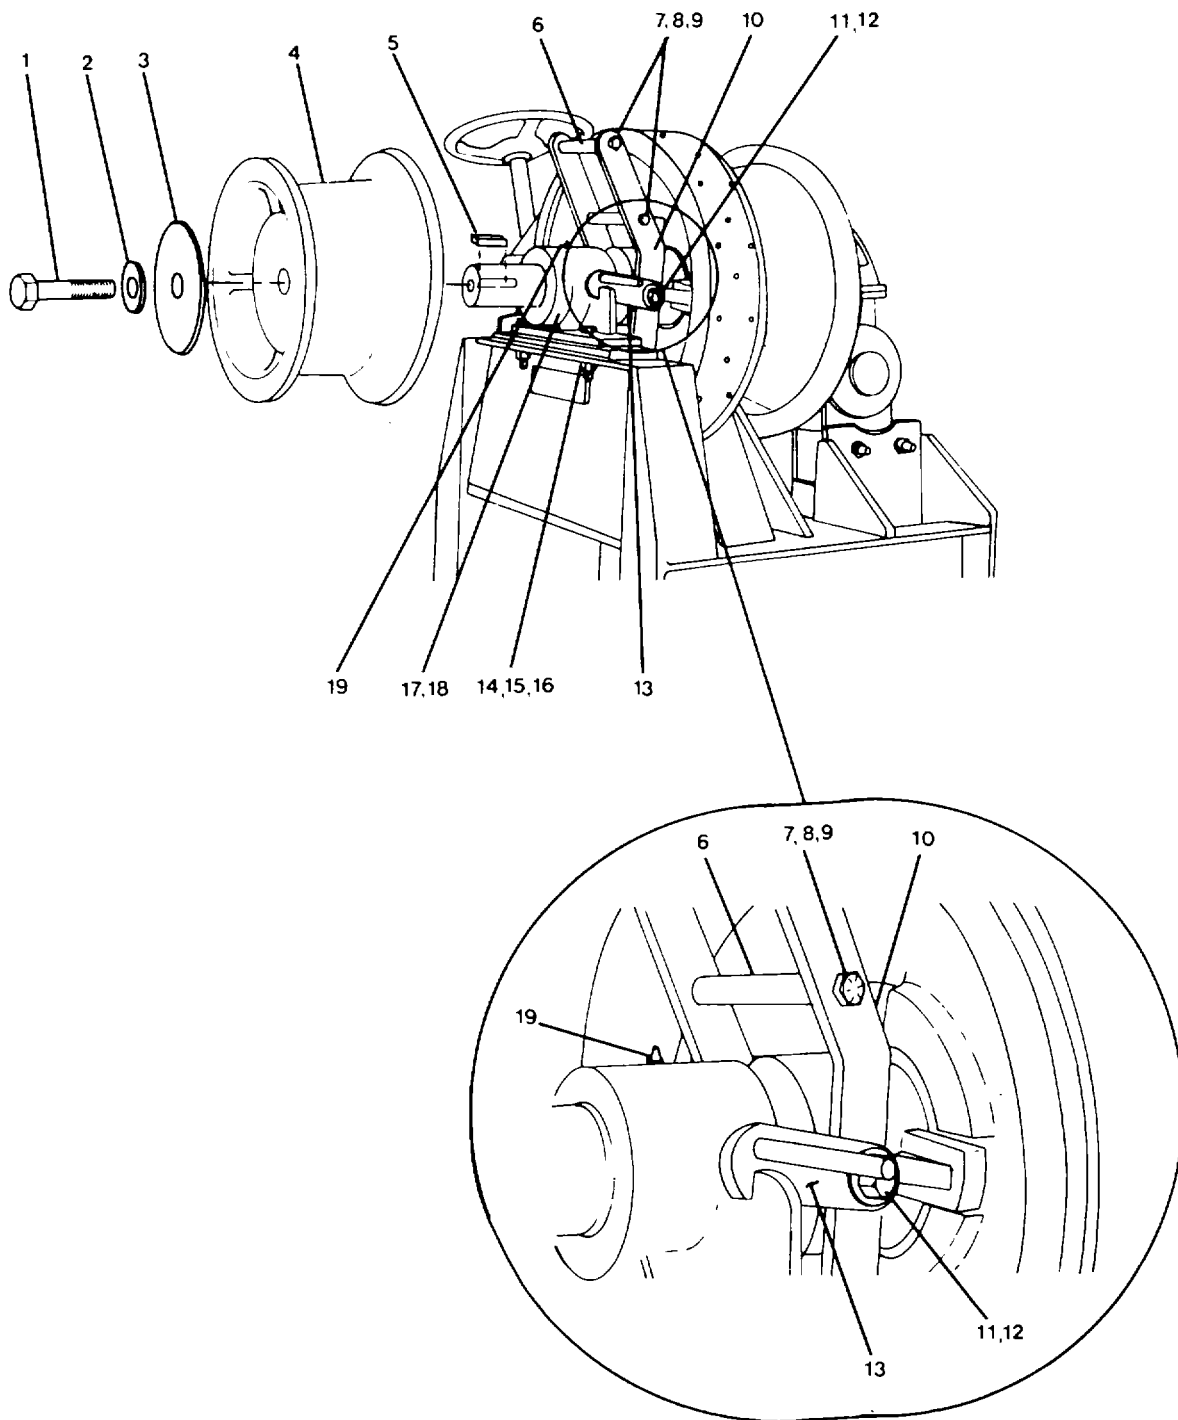

FIGURE 4-5. Bow Anchor Windlass Cathead and Clutch Components.
- (1) Remove capscrew (1, FIGURE 4-5) and lock washer (2) securing retaining plate (3).
- (2) Remove retaining plate (3).
- (1) Remove screw (14, FIGURE 4-5), nut (15), and lock washer (16) securing bearing unit housing (17).
- (2) Remove housing (17) and lubrication fitting (19).
- (3) Press bushing (18) from bearing housing (17).
- (1) Remove screw (7, FIGURE 4-5), nut (8) and lock washer (9) securing manual clutch handle (6).
- (2) Remove handle (6).
- (3) Remove shoulder bolt (11) and lock washer (12).
- (4) Remove clutch lockout (13).
- (2) Install jaw clutch handle (1).
- (3) Install spool and spacer (10).
- (4) Install end spacer (11).
- (5) Install capscrew (12) to retain pillow block and spacer (11).
- (6) Install clutch lockout (13, FIGURE 4-5).
- (7) Install lock washer (12) and shouldered bolt (11).
(8) Install clutch handle (6) and secure with screw (7), lock washer (9), and nut (8).
(1) Press bushing (18, FIGURE 4-5) into housing.
(2) Install bearing unit housing (17) and lubrication fitting (19).
(3) Secure bearing unit housing (17) with screw (14), lock washer (16), and nut (15).
(1) Install machine keys (5, FIGURE 4-5) on each end of shaft.